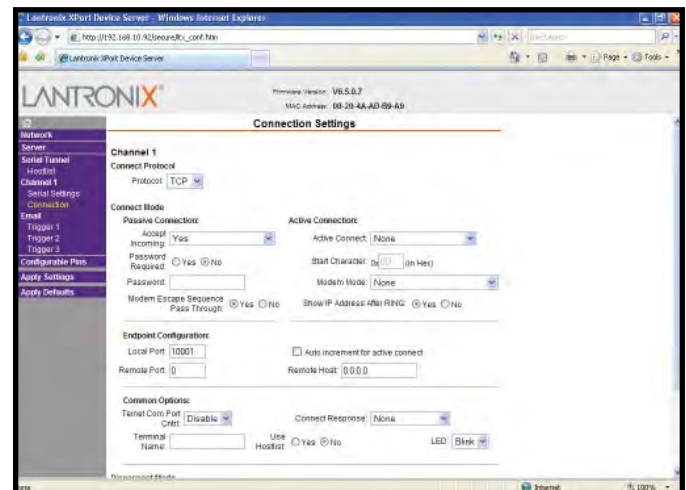

Figure 95. Channel 1 Connection Settings
- V. Click on the "Channel 1 Connection" link located in the left-hand margin (see Figure 95).